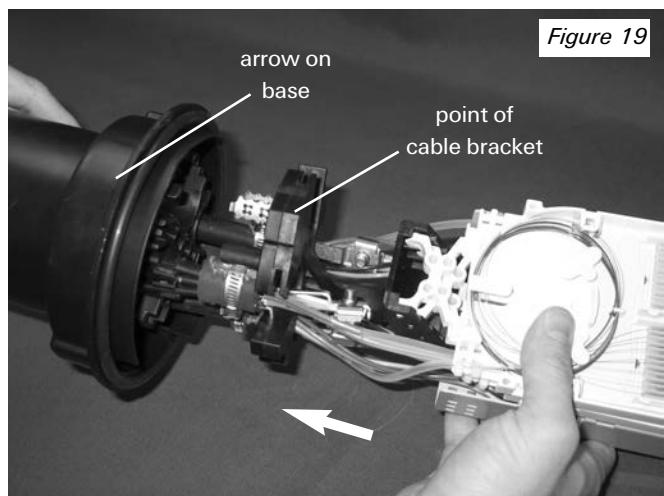

Figure 19
3. Slide the base up and over the gel seal. Align the arrow on the outside of the base with the pointed top of the cable/tray assembly. (Fig. 19)